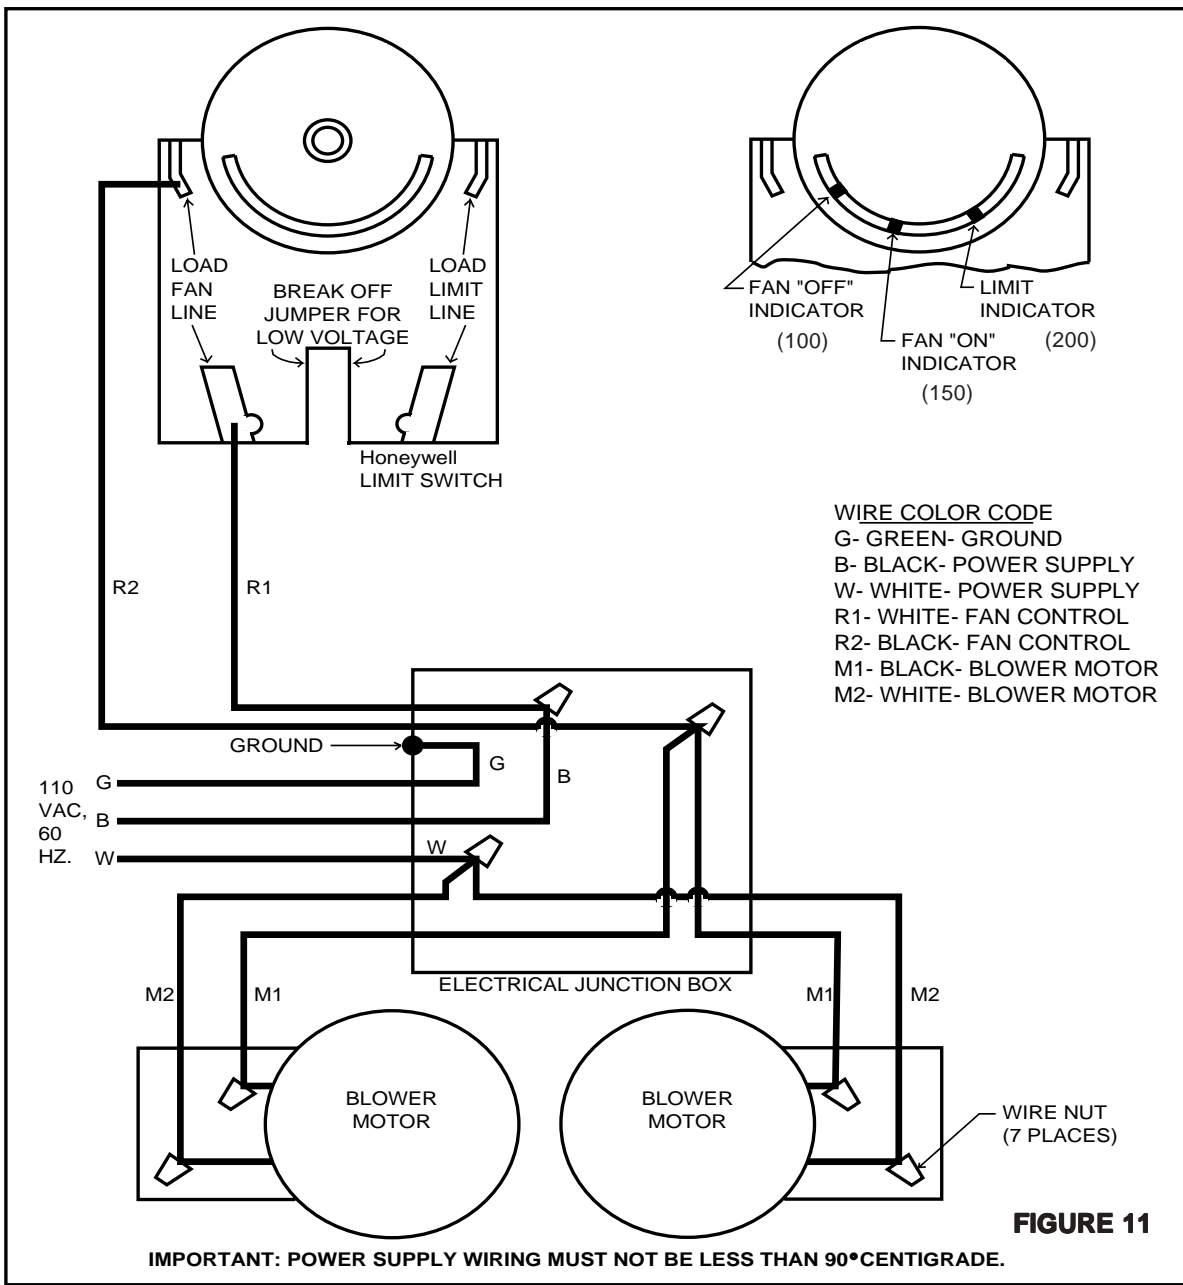

FIGURE 11
6. Wire right side blower first (See wiring diagram, Fig. 11) and replace cover on junction box on blower.
f) Connect electrical supply in the electrical junction box that is mounted on the back of the Furnace. See Wiring Diagram (Fig. 11). Remove the cover from electrical junction box and connect power supply wires to wires designated, using wire nuts. The power cord supplied may be used for installation, if permitted by local codes and regulations. If the power cord supplied cannot be used, the power supply wiring must be 90 degrees centigrade in a metal cable and should be completed by a qualified installer complying with NFPA Standard No. 70 and local codes.
The electrical supply for operation of this fan control switch is to be obtained from the same electrical supply as the central hot air heating system. Follow the instructions of the wiring diagram (Fig. 11). Do not make connections across Limit Control in the furnace.